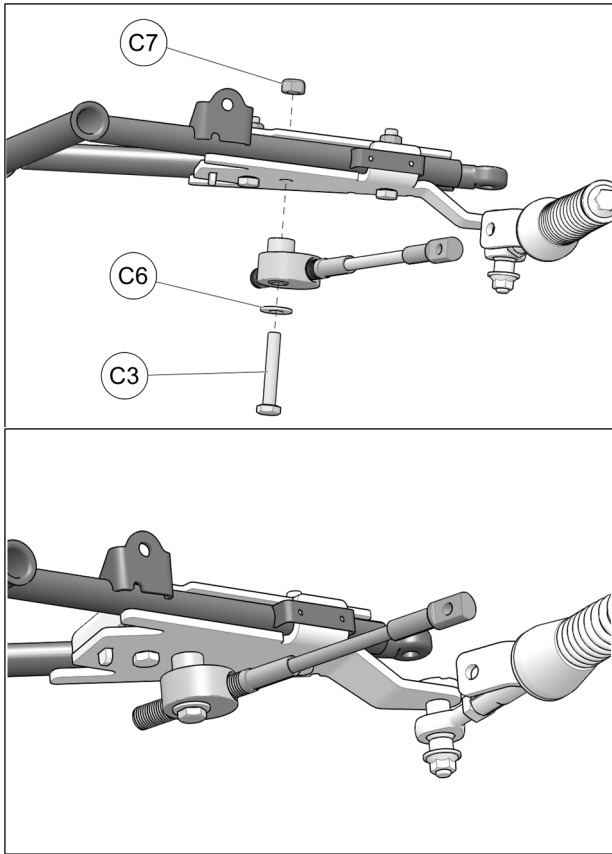

Fig. 23
12. Attach steering limiter cable assembly under anchor bracket using bolt (C3) inserted through bracket cover, washer (C6) and nut (C7). Tighten nut to 50 N•m [37 lb•ft]. Refer to Fig. 23